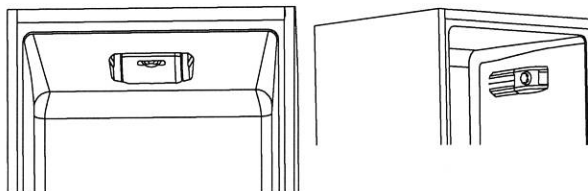

Fig.4
- The thermostat unit for control of the appliance is located inside of the refrigerator compartment (Fig.4).